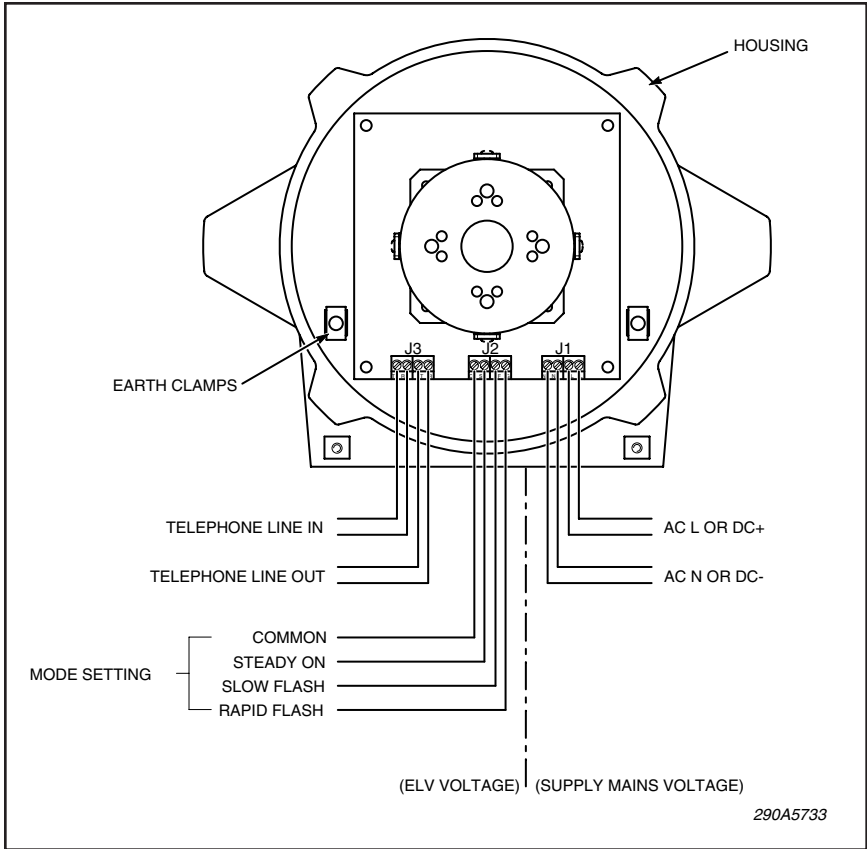

Figure 1.
e. A series of four-pole screw terminal blocks are provided for field wiring. See figure 1 for wiring diagram. These terminals are rated for the following wire ranges: 24 to 12 AWG (0.25 to 4 mm2). Terminal tightening torque is 0.5 Nm. The power feed through terminals of J1 are rated for 300 V, 10 amps maximum. See section D for specific mode of operation wiring.
a. Connect power wiring to the J1 terminal block as indicated in Figure 1(Ex d) or 2 (Ex de). The supply power should not be switched as the remote contacts are used to activate the light.
a. Connect power wiring to the J1 terminal block as indicated in Figure 1(Ex d) or 2 (Ex de).
a. Connect power wiring to the J1 terminal block as indicated in Figure 1 (Ex d) or 2 (Ex de).
b. Connect telephone line wiring to the J3 terminal block as indicated in Figure 1 (Ex d) or 2 (Ex de).